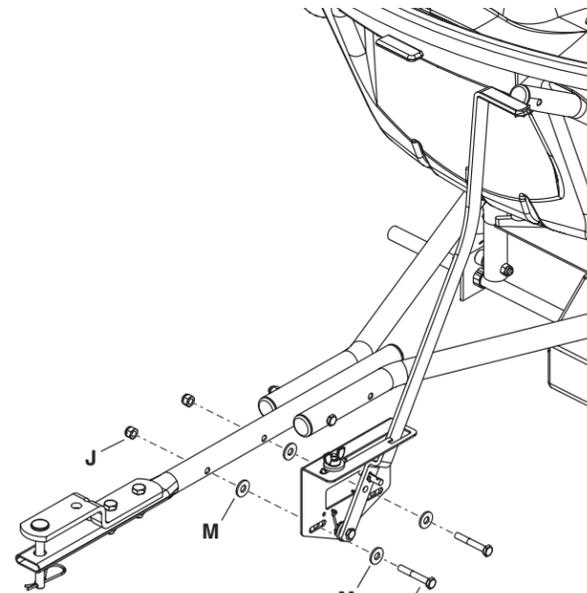

Figure 10
STEP 10: (SEE FIGURE 10)
- Attach the flow control bracket to the hitch tube using two 1/4" x 1-3/4" hex bolts (D), four 1/4" washers (M) and two 1/4" nylock nuts (J). **Do not tighten completely.**